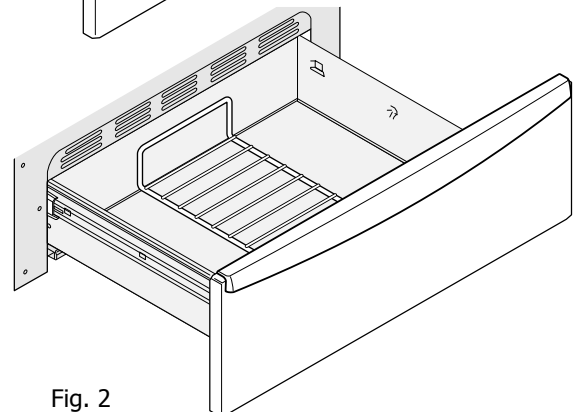

Fig. 2
- In the **downward position** (See Fig. 2) to allow for light weight food items and empty cookware on rack (for example, rolls or pastries and dinner plates).
Most food items may be maintained at serving temperatures using the medium setting (midway between **hi** and **lo** - See Fig. 2). When a combination of foods are to be kept warm (for example, a meat with 2 vegetables and rolls) use the **hi** (high) setting.